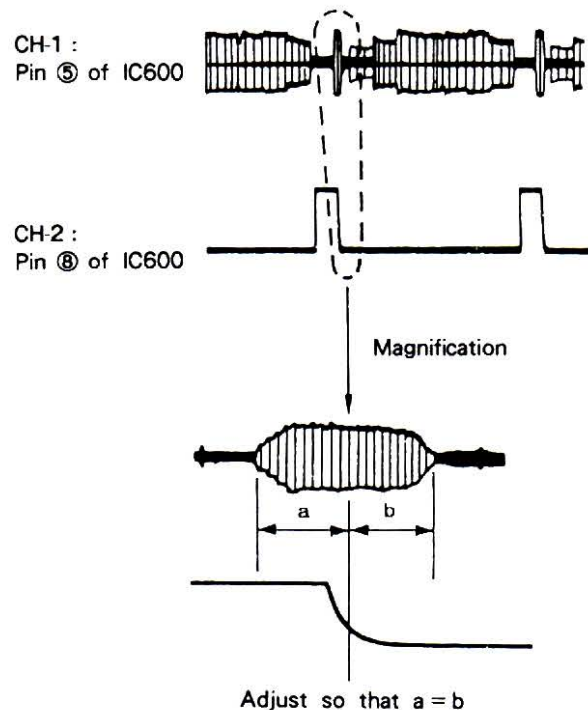

Fig. 8-13. IR 2 adjustment
- 1) Adjust RV601 so as to align the falling edge (┘) of CH-2 burst pulse with the middle point of CH-1 burst signal (see Fig. 8-13).